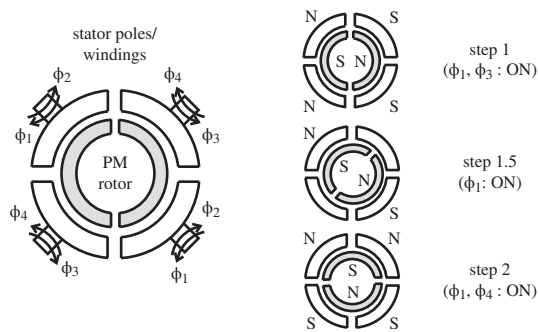

Figure 10.28 Example of a unipolar stepper motor.
Figure 10.28 illustrates the construction of and stepping sequence for a four-phase unipolar stepper motor. It consists of a two-pole permanent magnet rotor and a four-pole stator, with each pole wound by two complementary windings (e.g., ϕ_1 and ϕ_2 wound in opposite directions on the top left pole). Table 10.1 lists the phase sequence required to step the motor in full steps, where two of the four phases are energized (ON) and each stator pole is polarized. Table 10.2 lists the phase sequence for half-stepping, where between each full step only one phase is energized (ON) and